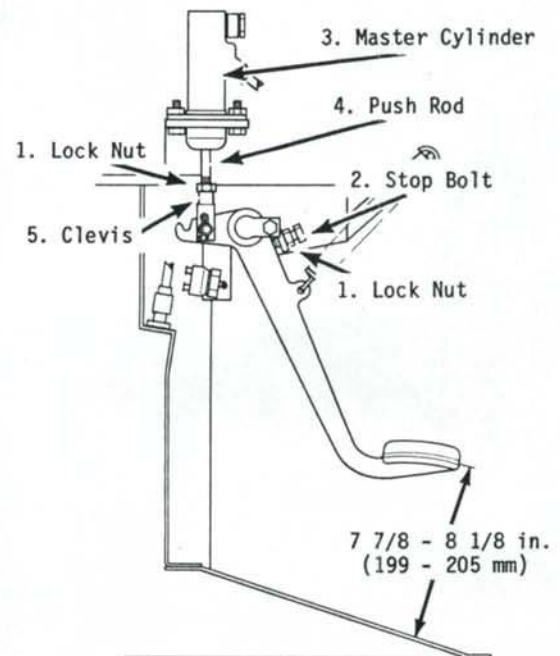

Fig. 81—View showing engine clutch pedal height adjustment on models equipped with cab. Refer to text for procedure.
98. PEDAL HEIGHT. To adjust the clutch pedal height on models with cab, disconnect line from master cylinder. Unbolt master cylinder and loosen locknut (1—Fig. 81) on push rod (4). Loosen locknut on stop bolt (2), then turn stop bolt counterclockwise several turns. Raise master cylinder and rotate push rod with fingers as required. Install master cylinder and tighten retaining bolts. Measure distance from floor pan (mat removed) to pedal as shown in Fig. 81.